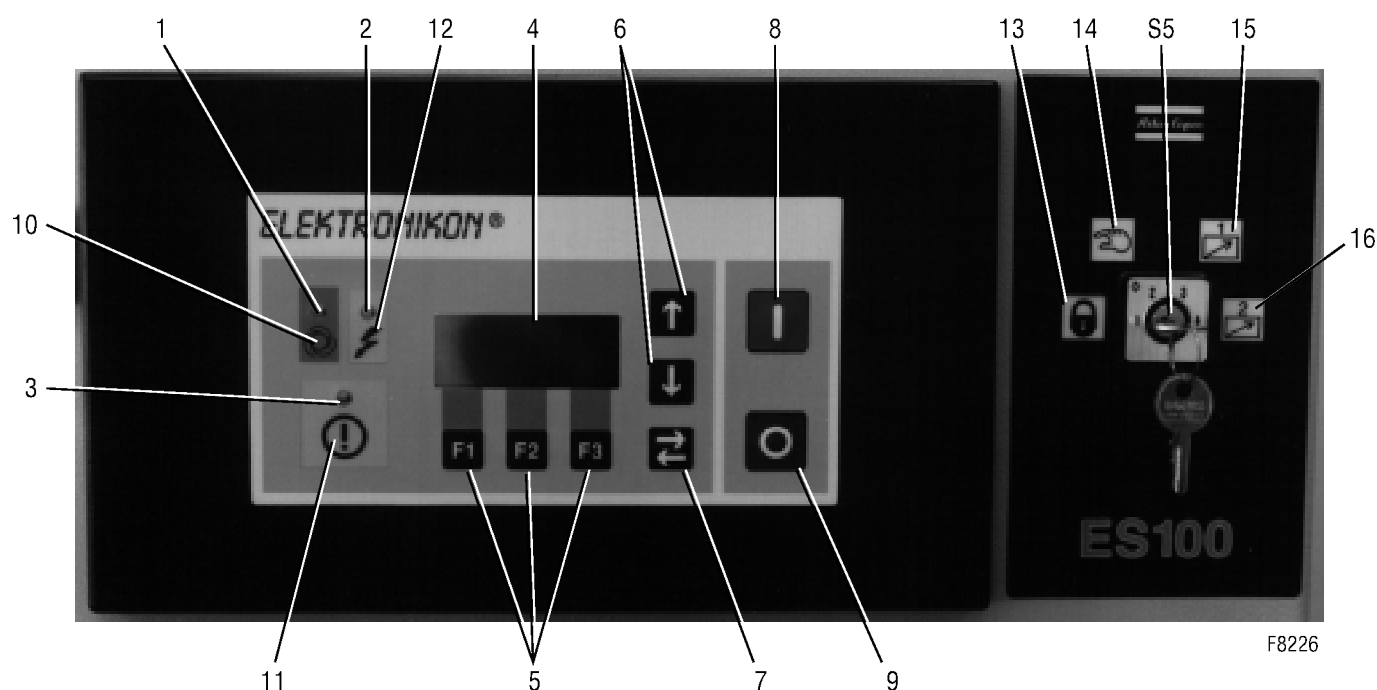

Fig. 3.1. Control panel ES100
2. Provide a power supply cable. Connect one side of the power supply cable to terminals (L and N) of net filter (NF) and the PE-line (earthing) to terminal PE of the net filter **(not to the earthing bolt of the sequence selector module)**.
5. Switch on the voltage to the sequence selector. LED (2-Fig. 3.1) lights up.
## 2.4 Starting (Fig. 3.1)
## 2.5 Stopping (Fig. 3.1)
### 3 CONTROL PANEL (Fig. 3.1)
### 4.1 Display (4-Fig. 3.1)
### 4.2 Scroll keys (6-Fig. 3.1)
### 4.3 Tabulator key (7-Fig. 3.1)
### 4.4 Function keys (5-Fig. 3.1)
### 4.5 Operation mode switch (S5-Fig. 3.1)